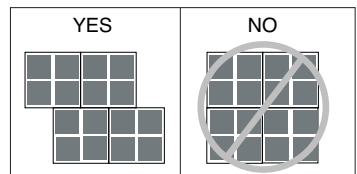

Fig. 10
1. Begin the second row of planks with the piece cut from the last piece in the first row. If the piece is shorter than 8" (20.32 cm) cut a new plank in half and use it to begin the second row. Whenever practical, use the piece cut from the preceding row to start the next row. End joints of all boards should be staggered 8" (20.32 cm) or more. Grout lines on planks with tile visuals can be aligned, or off-set as long as end joints are staggered (Fig. 10).